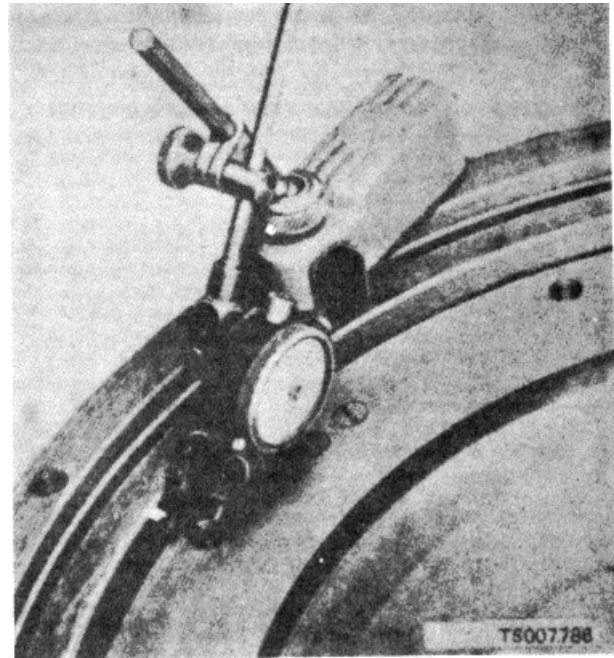

Figure 9-22. Checking Flywheel Eccentricity.
d. Check flywheel eccentricity by mounting a dial indicator (fig. 9-22) and rotating the crankshaft through